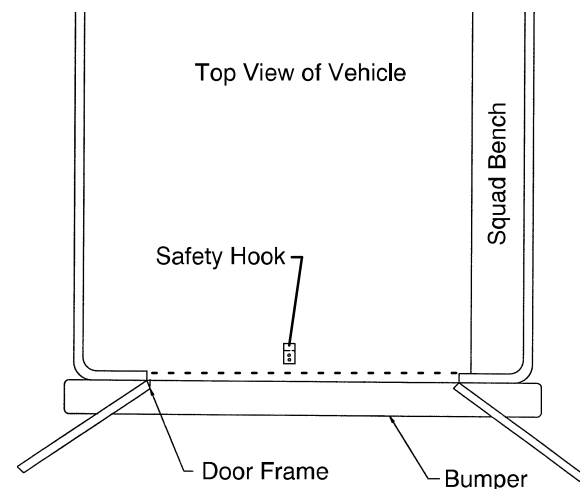

Figure 4 - Safety Hook Placement
3. Center the safety hook (Figure 4) on the cot safety bar. Be sure the hook is facing the front of the vehicle.